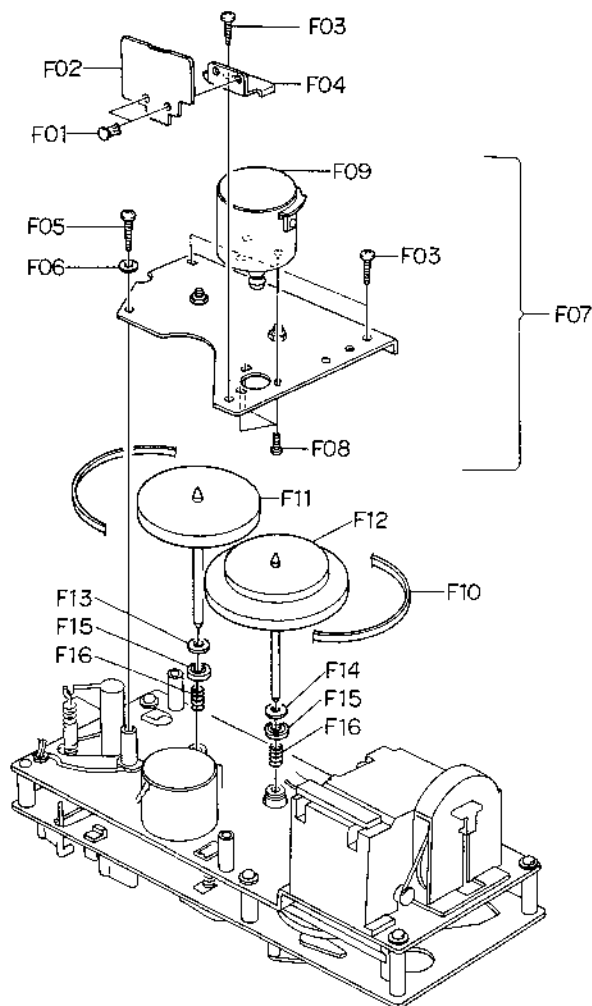

Fig. 2.8
Refer to Fig. 2.8.
- (1) Refer to Fig. 2.8. Remove Flywheel Ass'y referring to item 2.23.
- (2) Remove F01 and F02, then disassemble F03 (Sub Mechanism Chassis Ass'y).